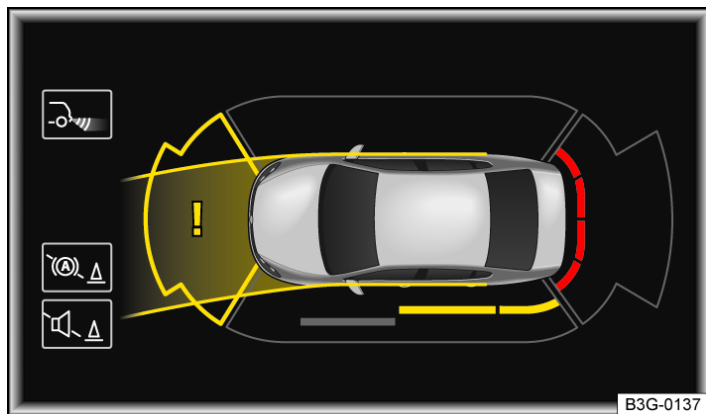

Fig. 1 The Infotainment system screen displays Park Distance Control with steering wheel angle and obstacles.
Park Distance Control detects the distance from an obstacle by means of sensors in the front and rear areas of the vehicle (→ Front view) (→ Rear view). If there is an obstacle in the detection range of the sensors, the system indicates this on the Infotainment system screen and by means of signal tones → Fig. 1 , → ①.